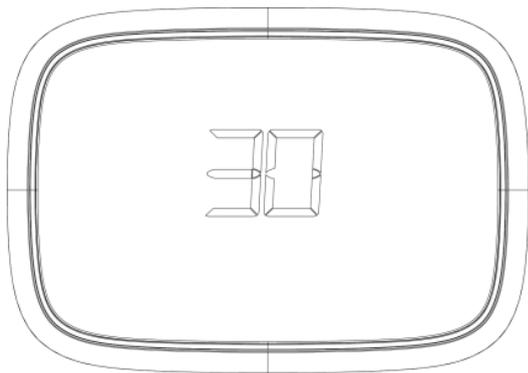

Fig.25.
1. Press and hold the  key for approximately 3 seconds until the screen changes. Thermostat locks out all touch keys for 30 seconds to allow for cleaning. See Fig. 25.